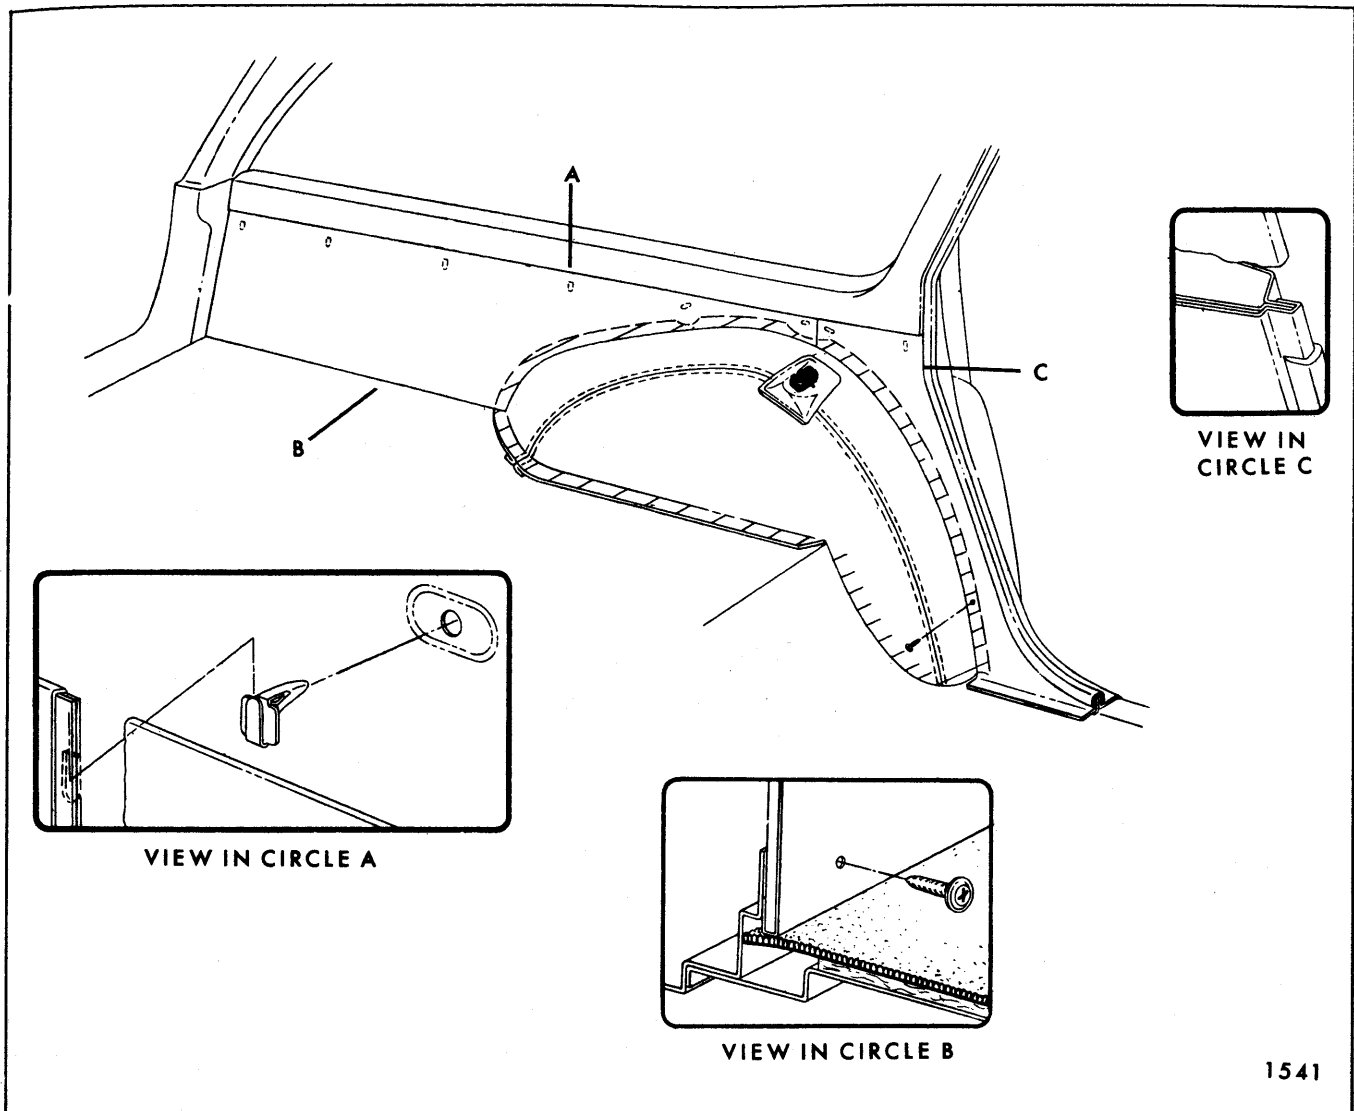

Fig. 8-19—Rear Quarter Trim Panel, Left Side - "A" Station Wagons
5. To install, reverse removal procedure. Prior to installation of pinchweld finishing strip, cement forward edge of trim assembly to out-board surface of body lock pillar pinchweld flange (see View "C" in Fig. 8-19).
bottom center of panel (see View "B" in Fig. 8-19).
2. Working from front to rear (with a flat bladed tool) disengage trim retaining clips from plastic sealing plugs along upper edge of rear quarter rear trim panel (see View "A" in Fig. 8-19).